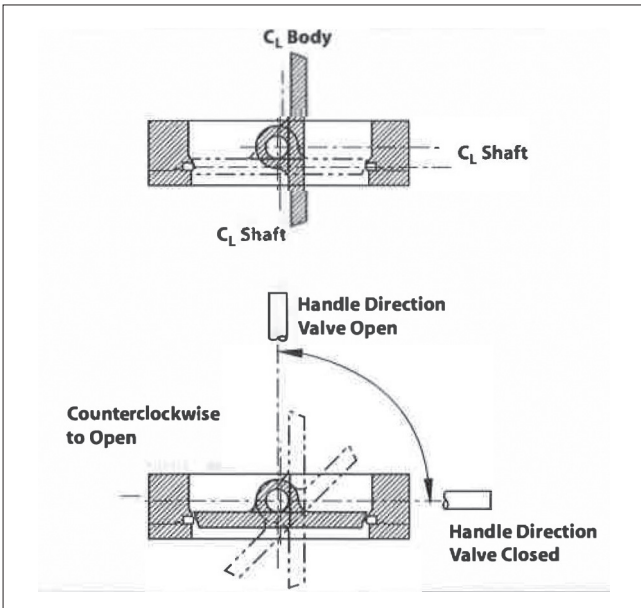

Figure 3.
One of the design features of the Neldisc valve that is responsible for its superior performance is the eccentric shaft design. The shaft is offset in two planes: (1) away from the valve disc center line, and (2) behind the disc sealing plane (See Figure 3). Offset shaft design makes the rotating disc "cam" back and away from the seat, completely eliminating the usual wear points at the top and bottom of the seat. Because the disc rotates off the seat in an eccentric arc, it operates in one quadrant only.
2. Before installing a closed valve in the pipeline, be sure that the handle or actuator is attached so that a counter-clockwise rotation, viewed from above, opens the valve (See Figure 3). Fully close the valve again before installing in the pipeline.